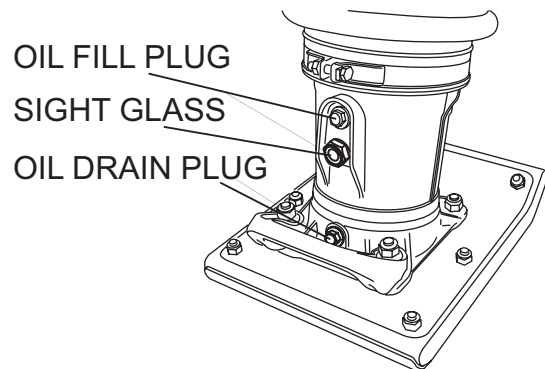

Figure 14. Oil Drain Plug
- Remove the oil drain plug on foot housing (Figure 14) and drain the oil. Refill with approximately 1.7 pt. (800 cc.) of 10W-30 SE, SF or higher grade motor oil. Oil should be midway in sight glass. Break in oil should be changed after first 50 hours.